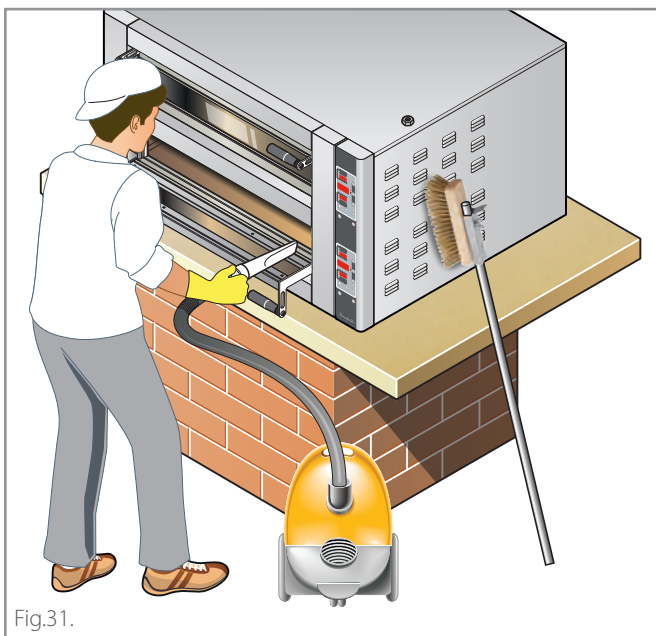

Fig.31.
- Ⓔ in a cold oven, clean the chamber from the crystallized food residues using a natural fibre brush and then vacuum with an ash extraction bin ► Fig.31.
- Ⓔ with a cold oven, clean the chamber from the crystallized food residues using a natural fibre brush and then vacuum with an ash extraction bin ► Fig.31.